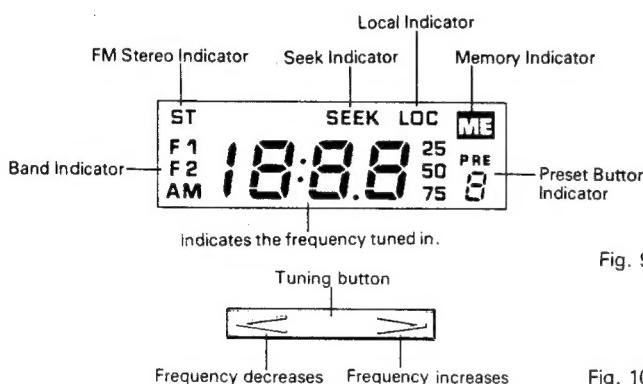

Fig. 9
1. When the Radio Power Switch ② is pushed on, the radio frequency will appear on the Digital Display ⑤. (Fig. 9)
2. Press Band Select Button ⑬ to select the desired band and Digital Display ⑤ will illuminate to indicate the band.
2. Press Band Select Button ⑩ to select the desired band and Digital Display ⑤ will illuminate to indicate the band.